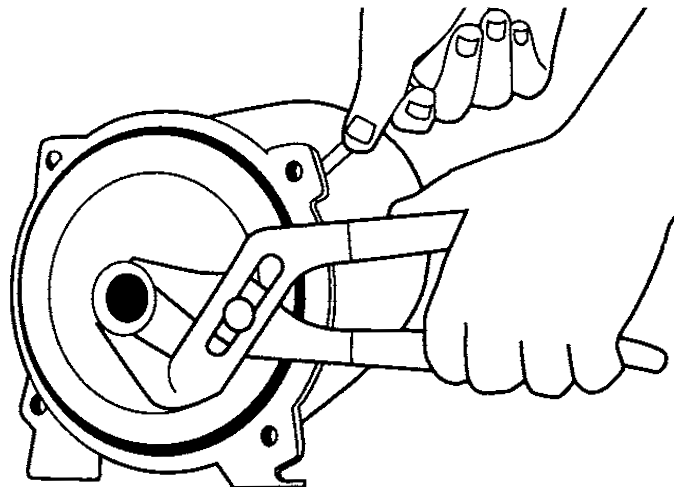

Figure 16 - Remove Impeller
4. Remove the impeller by holding the pump shaft with a screwdriver placed in the slot end of the motor shaft and rotating the impeller counterclockwise (Figure 16.)
3. Remove the 3 cap screws holding the diffuser to the seal plate and remove the diffuser. When replacing the diffuser, use three .010" thick shims equally spaced between the impeller eye and diffuser opening. This centers the diffuser and prevents impeller rub (Figure 16.)